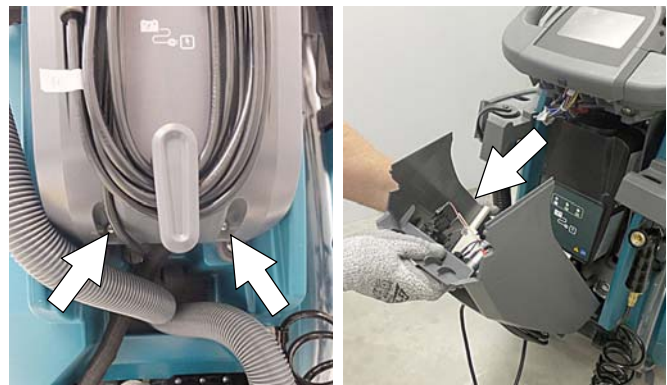

FIG. 124
3. Using a T25 star screwdriver, remove the two screws located at the bottom of the control console to access battery charger (Figure 124).